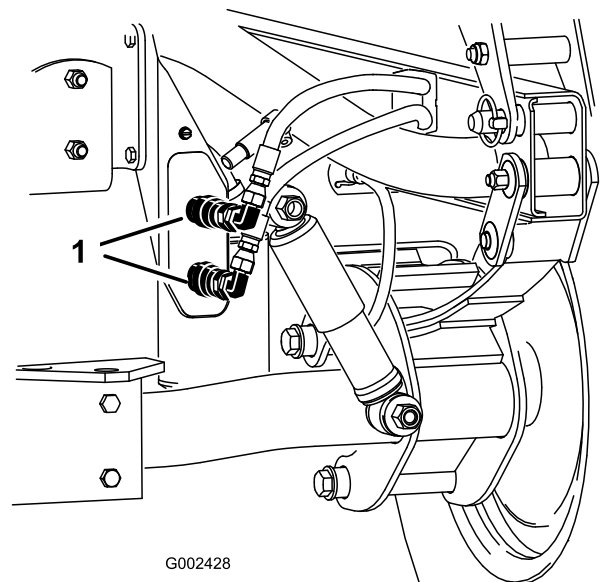

Figure 61
- On both vehicles, disconnect the two quick coupler hoses from the hoses secured to the coupler bracket (Figure 61).